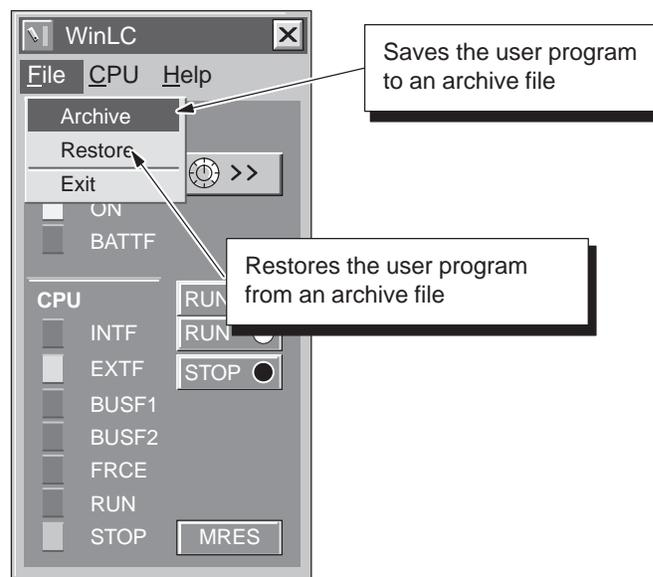

Figure 4-24 WinLC Archive and Restore Commands
As shown in Figure 4-24, you create an archive file by selecting the **File ► Archive** menu command from the CPU panel. A dialog box allows you to save the archive file under a specific name. This allows you to store different archive files.
3. Select the **File ► Restore** menu command from the CPU panel (as shown in Figure 4-24).